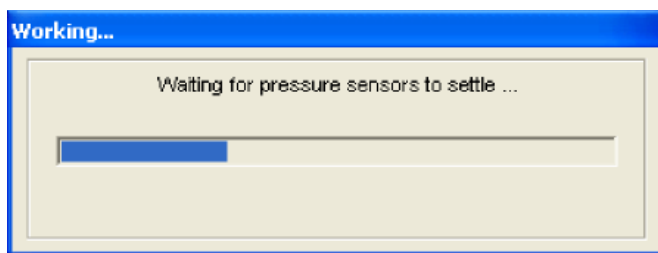

Figure 5-3 Auto-zero Status Window
6. Once the system indicates that it is at ambient pressure, click **OK** and a status window will indicate that auto-zeroing is in progress (Figure 5-3).